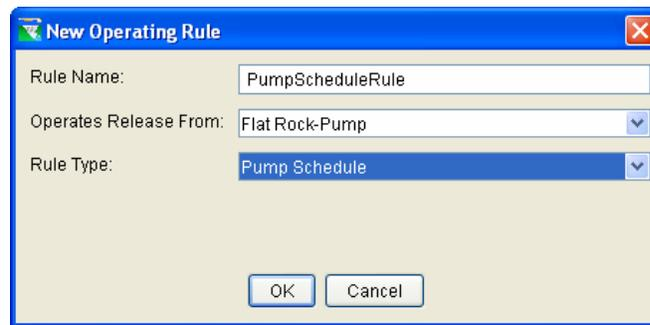

Figure 11.48 New Operating Rule: Pump Schedule
1. To create a Pump Schedule rule, follow the instructions for creating a new rule as described in Section 11.5.1. Select the Pump component (**Operates Release from**) and **Pump Schedule** for the **Rule Type** in the **New Operating Rule** editor. Figure 11.48 illustrates the creation of a Pump Schedule rule that is assigned to the Pump.